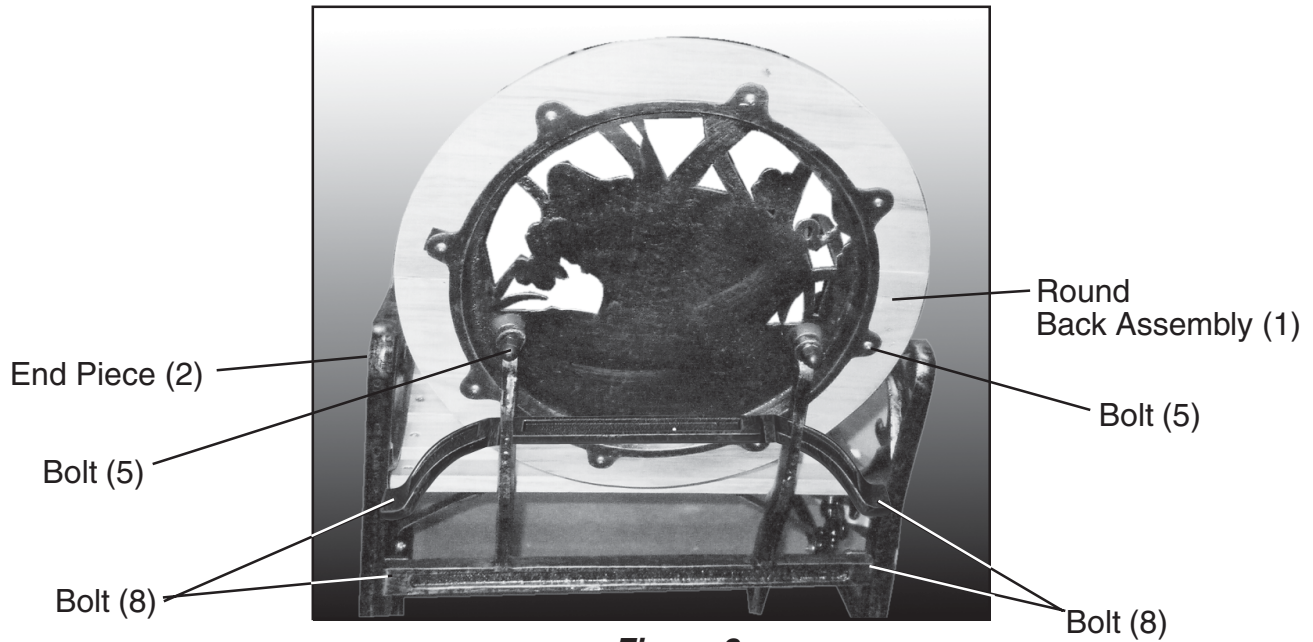

Figure 2
2. Attach the Round Back Assembly (1) to the End Pieces left and right (2). Use Bolts (5) to attach. Hand tighten only. **See Figure 2.**